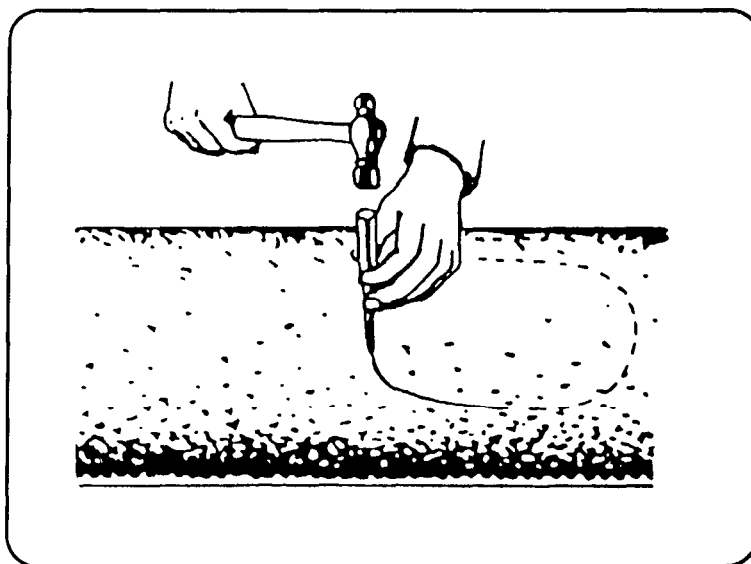

Figure 1-5. Cutting a hole in the main sewer
Step 3. Make the cut on this line with a small cold chisel and an 8-ounce ballpeen hammer, as shown in Figure 1-5. Use light blows to prevent damage to the main sewer.